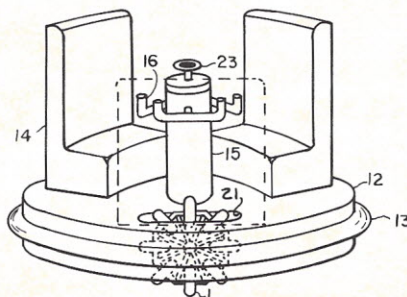

Figure 4: A perspective view of a bumper car. One seat has been removed to show how a wheel is positioned.
Three-seat Bumper Car. The bumper car shown in figure 4 is composed of a circular platform (12) surrounded by a resilient bumper ring (13). Three inwardly facing seats (14) are mounted to the platform. Three control handles (16) are mounted to a central post (15). These handles move potentiometers for controlling the action of drive motors for each of the three wheels.